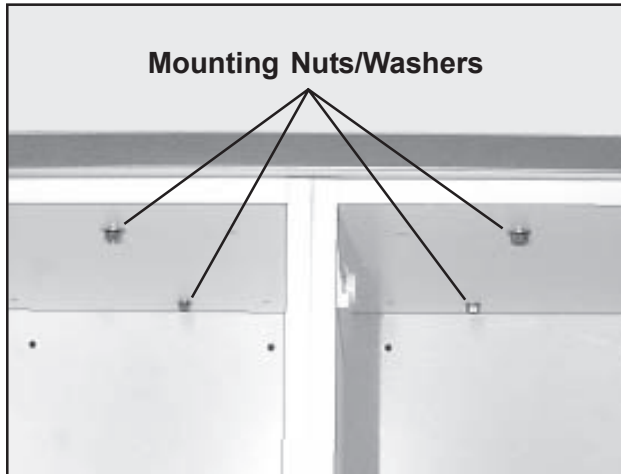

Figure 24. Interior View of Exam Table
2. With a 1/2 in. wrench, unscrew the four exam top mounting nuts (Figure 24).